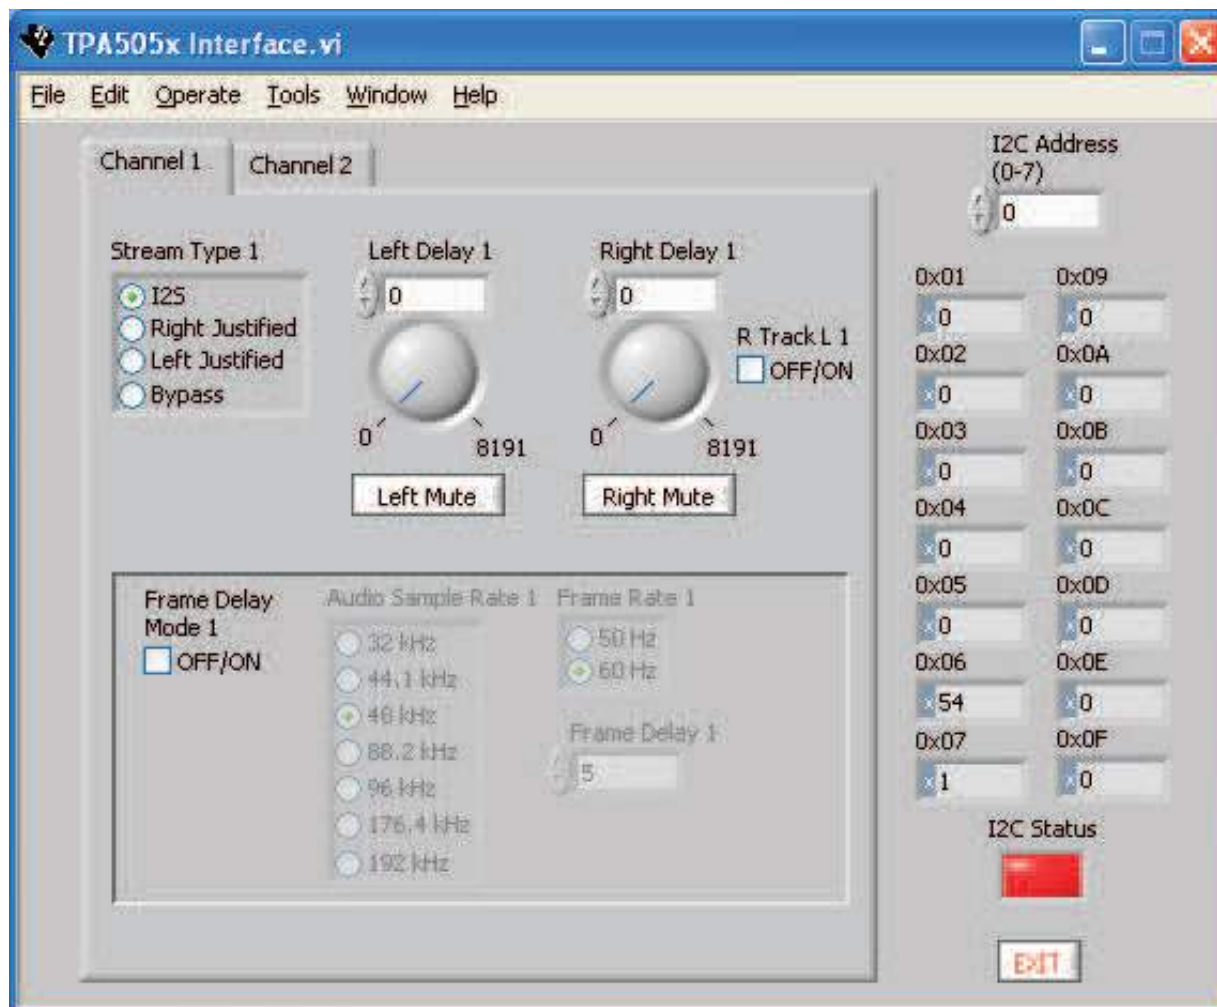

Figure 4. TPA5050 in I2S Mode – Unable to Communicate
8. The *I2C Status* display at the bottom right indicates whether the device and the computer are communicating properly. A red status bar indicates a problem. A green status bar indicates the device and computer are talking (see Figure 4). Possible solutions to the red status bar problem are to hit the **reset** button on the TI Input USB board, check to see that all cables are properly connected, restart the TPA5050 GUI, remove and then re-insert the USB cable into the computer, reboot the computer, or re-install the software.